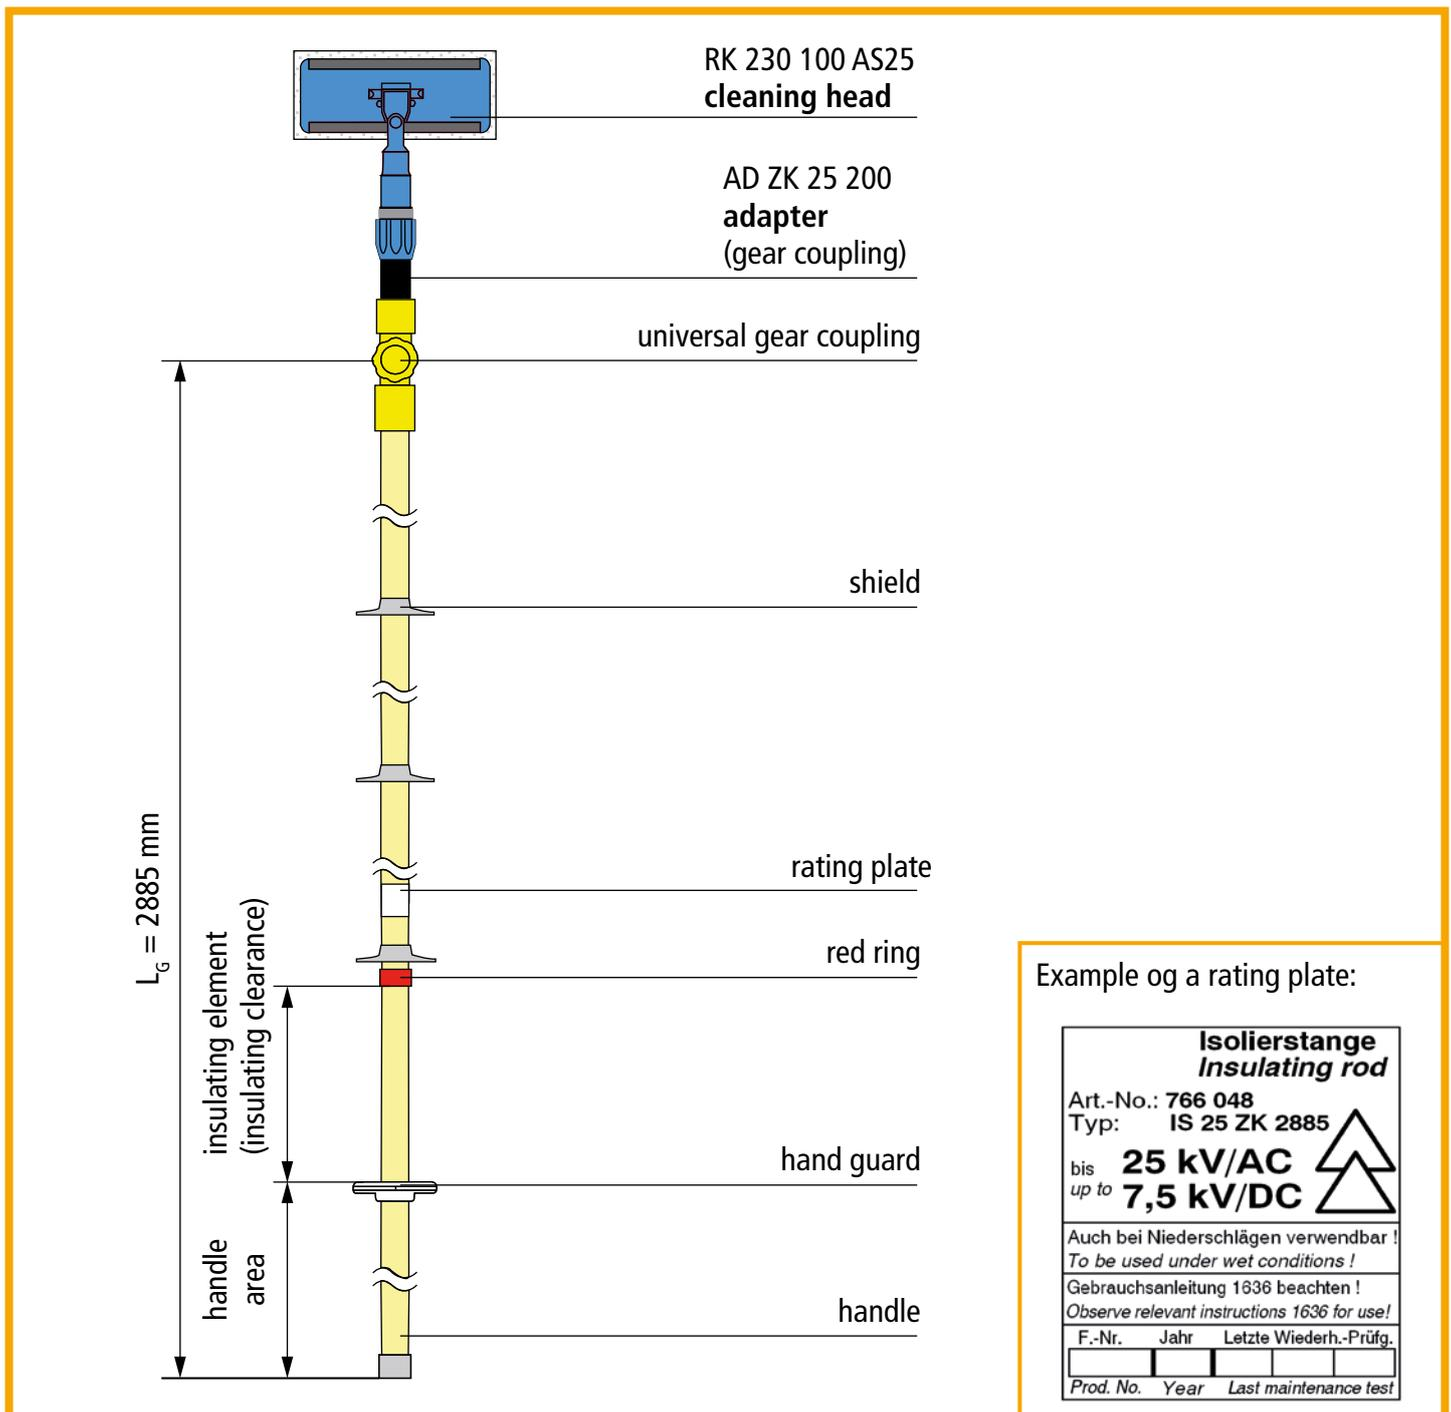

Figure 4 Operation
- 3.11 Only contact the handle of the **IS 25 ZK... insulating stick** (see Fig. 4, page 8).
- ⇒ The **hand guard** and the **red ring** limit the **insulating element (insulating clearance)** (see Fig. 4).